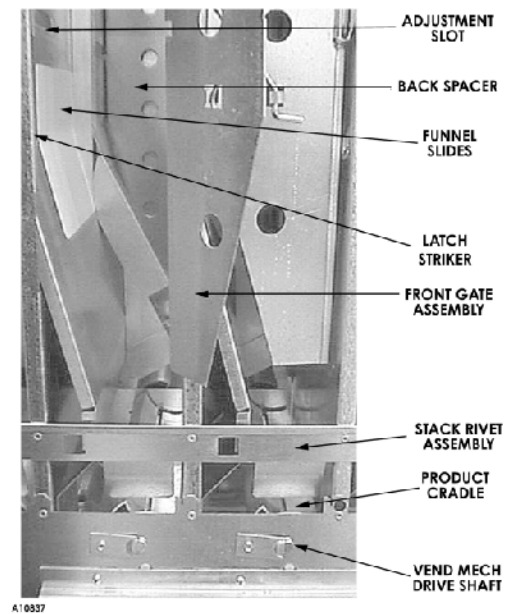

Figure 9. Vend Rack
2. Funnel slides must be kept clean. Refer to Figure 9 for part names, locations, and product orientation.